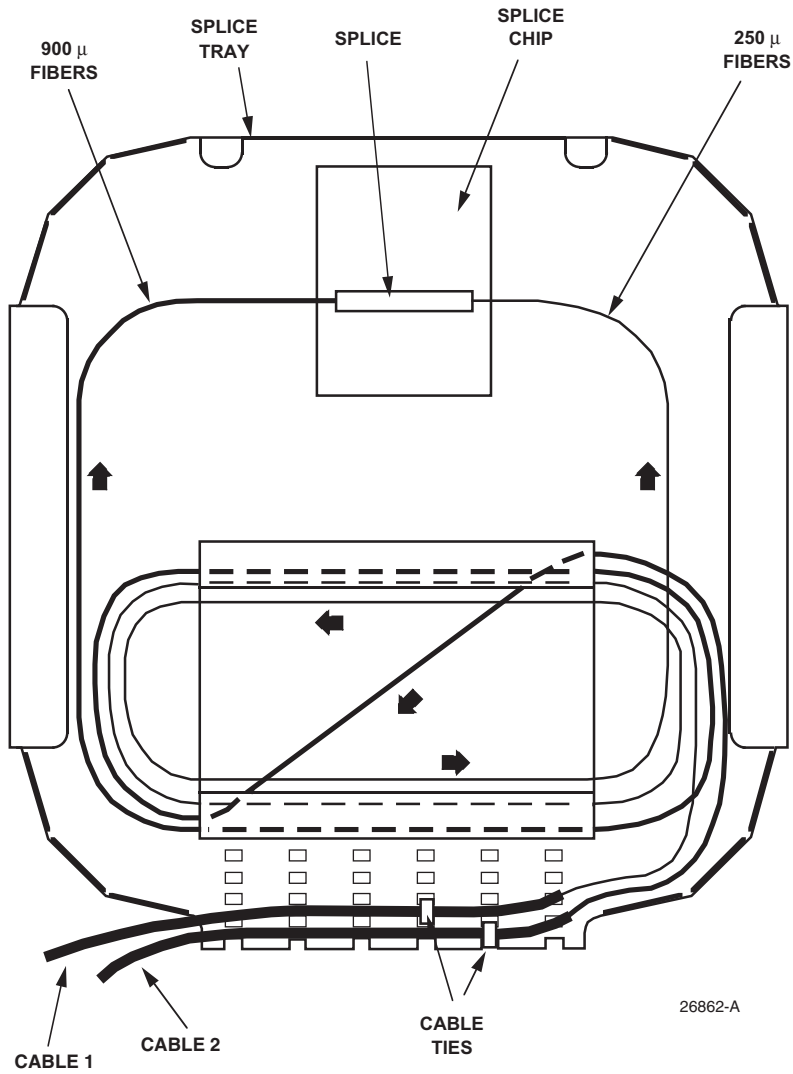

Figure 8. Fiber Routing in Splice Tray
2. Secure the fiber bundles to the splice tray with tie wraps as shown in Figure 8. The tie wraps should secure the protective sleeve or jacket but must not pinch the fibers.
3. Route the fibers on the splice tray as shown in Figure 8. The routing in the splice tray is dependent on the fiber entry direction (either from the left or the right).